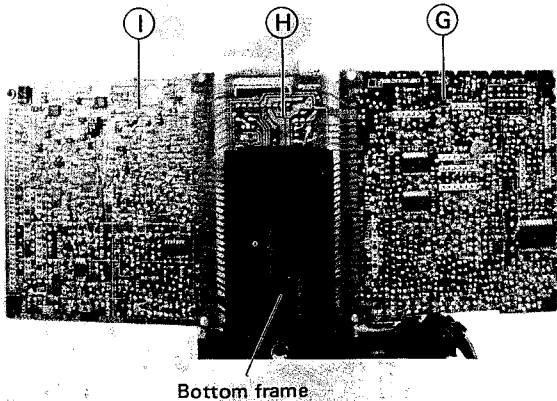
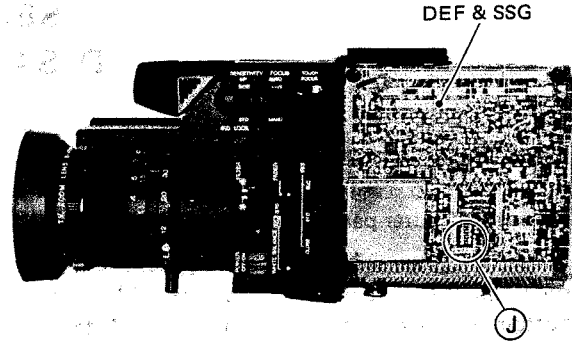

Fig. 1-6 Camera P.W.B. Ass'y
Fig. 1-7 Flexible printed circuits
2. As shown in Fig. 1-6 the VIDEO P.W.B. (G), BOTTOM P.W.B. (H), and DEFLECTION board (I) compose a CAMERA P.W.B. ass'y together three in one. As the video board is connected with others through flexible printed circuits as shown in Fig. 1-7 (J), carefully handle the boards especially in opening and closing them.